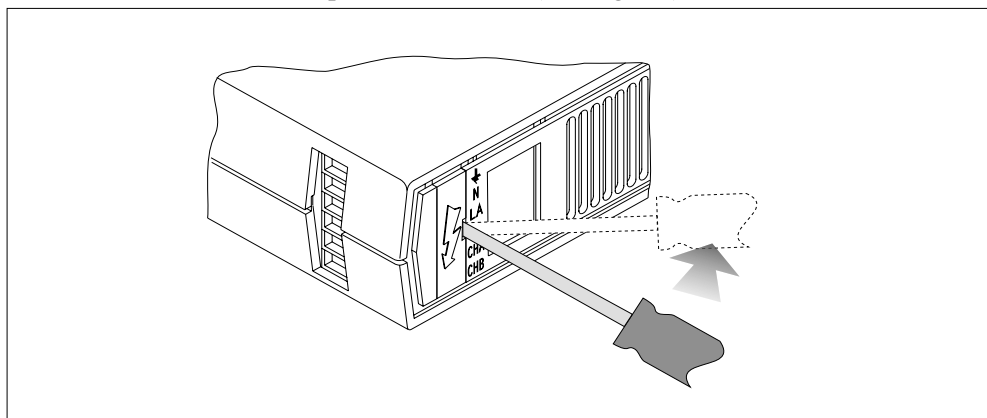

Fig.2-2: Removing the power terminal cover.
Insert the blade of a small flat-bladed screwdriver into the notch on the terminal cover plate, and gently prise out the plate to gain access to the terminal screws for the power connector (see Fig.2-2).
1. Insert the blade of a small flat-bladed screwdriver into the notch on the terminal cover plate, and gently prise out the plate to gain access to the terminal screws for the power connector (see Fig.2-2).